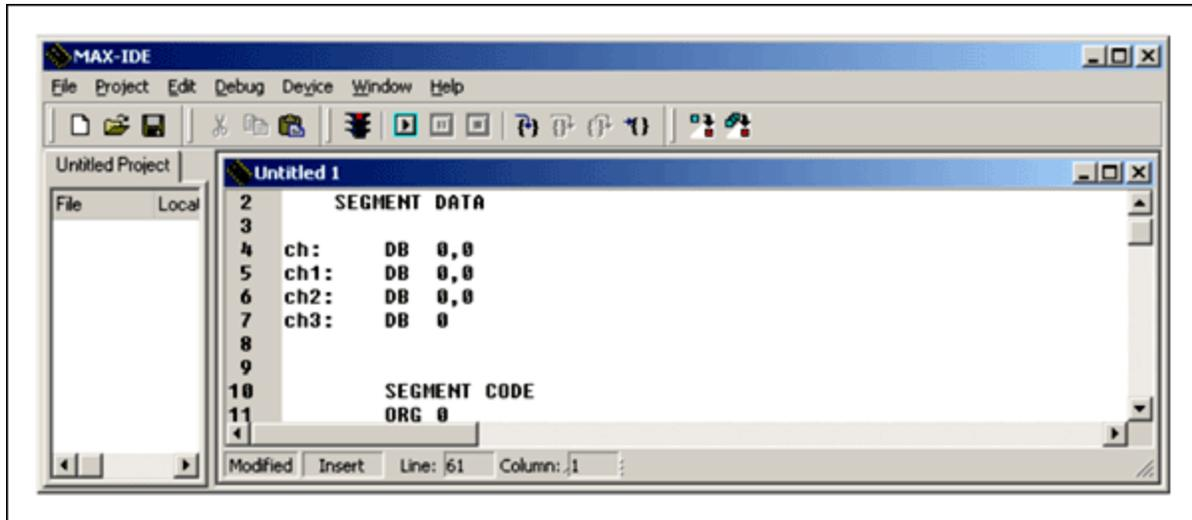

Figure 2. Use the project manager and editor windows to create a new file.
**Step 2:** Before proceeding with the project menu, you need to add files to this project. From the main menu create a new source file by choosing **File**→**New File** from the menu. This will open a new editor window with the title "Untitled 1." Enter the assembly code shown in **Table 1** below. Alternatively, you can download the assembly code and add this file to the project, as explained in Step 4 below. **Figure 2** shows the MAX-IDE with the project manager and editor windows open.